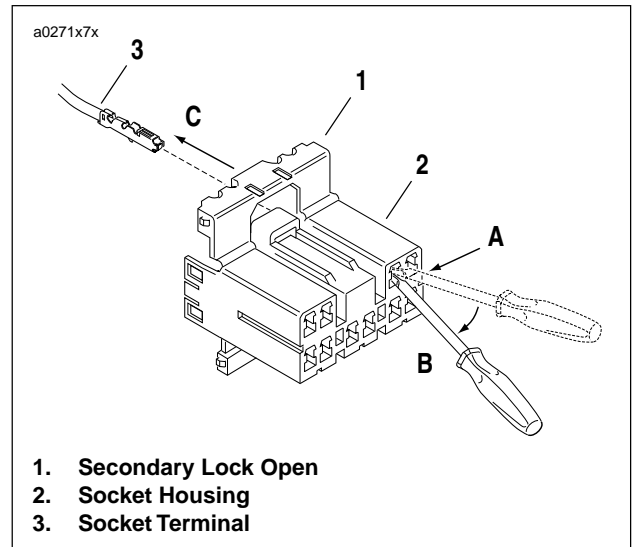
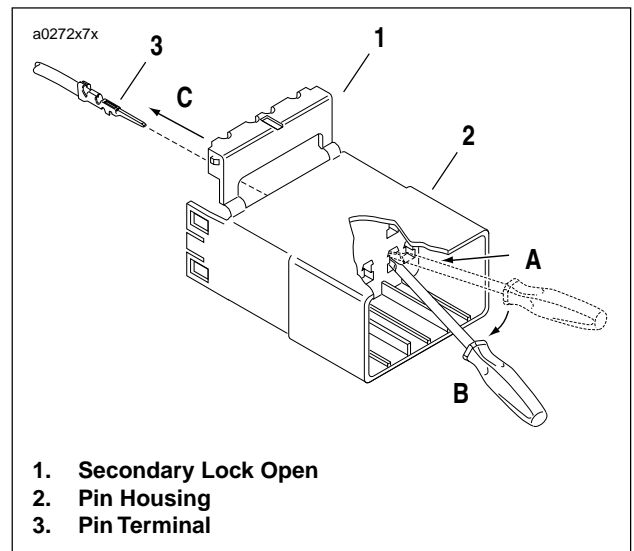

Figure B-6. Socket Terminals
Figure B-7. Pin Terminals
7. Remove socket terminal (Figure B-6) or pin terminal (Figure B-7)
- a. If installing socket terminals, see Figure B-6.
- b. If installing pin terminals, see Figure B-7.